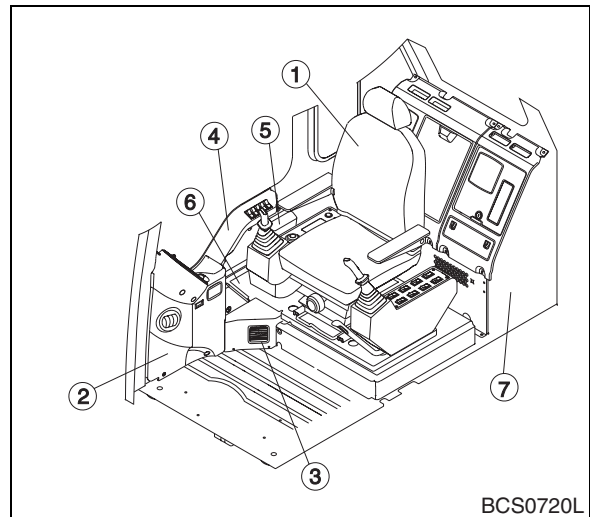

Figure 13
15. Install side panel (6, Figure 13) and pocket (5).
16. Install cover (4, Figure 13) and connect the main harness. Install cover (3). Connect the hour meter connector and cigar lighter connector of cover (2).
17. Install cover (2, Figure 13).
18. Install operator's seat (1, Figure 13).